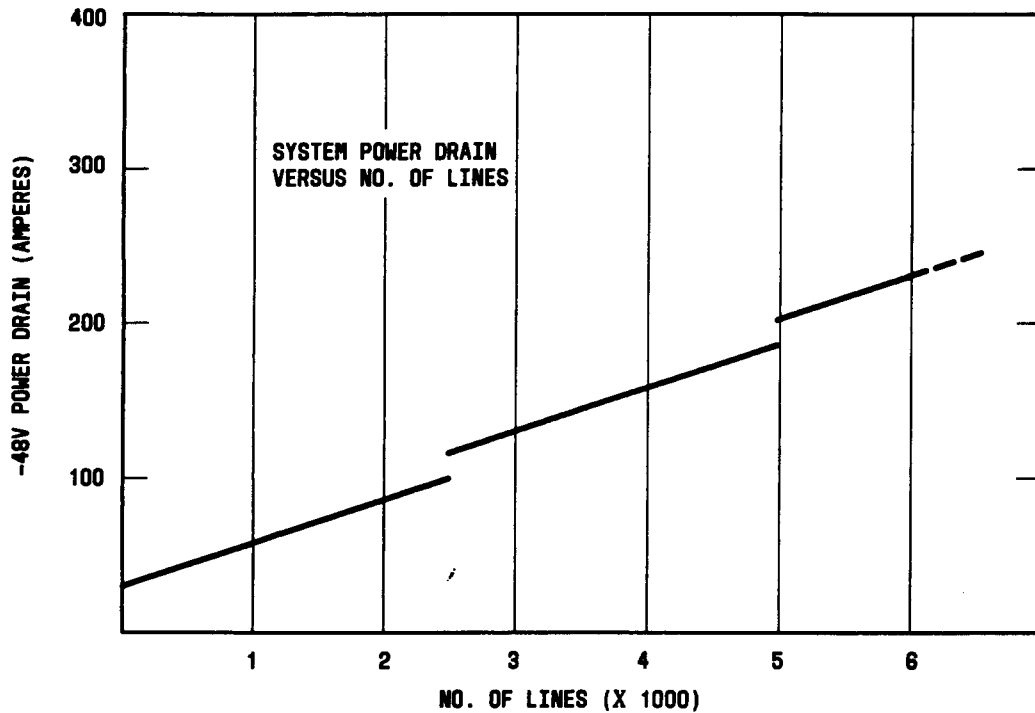

Fig. 1—Typical -48 Volt Power Drains (Busy Hour)
*cluding* toll) should be taken from data in Table B showing heat dissipation and Fig. 1 showing dc power drain. Frame-by-frame summation of the total heat release should not be used as it indicates excessive values. Heat release for toll equipment (along with other non-DMS-10 Digital Switching System equipment) and the environmental load on the building envelope should be added to the DMS-10 Digital Switching System equipment heat release to form the total building cooling load.